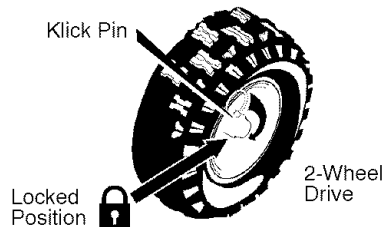

Figure 11
1. The right hand wheel is secured to the axle with a **klick pin**. This unit was shipped with this klick pin in the **locked position (through wheel hole)**. See Figure 11.